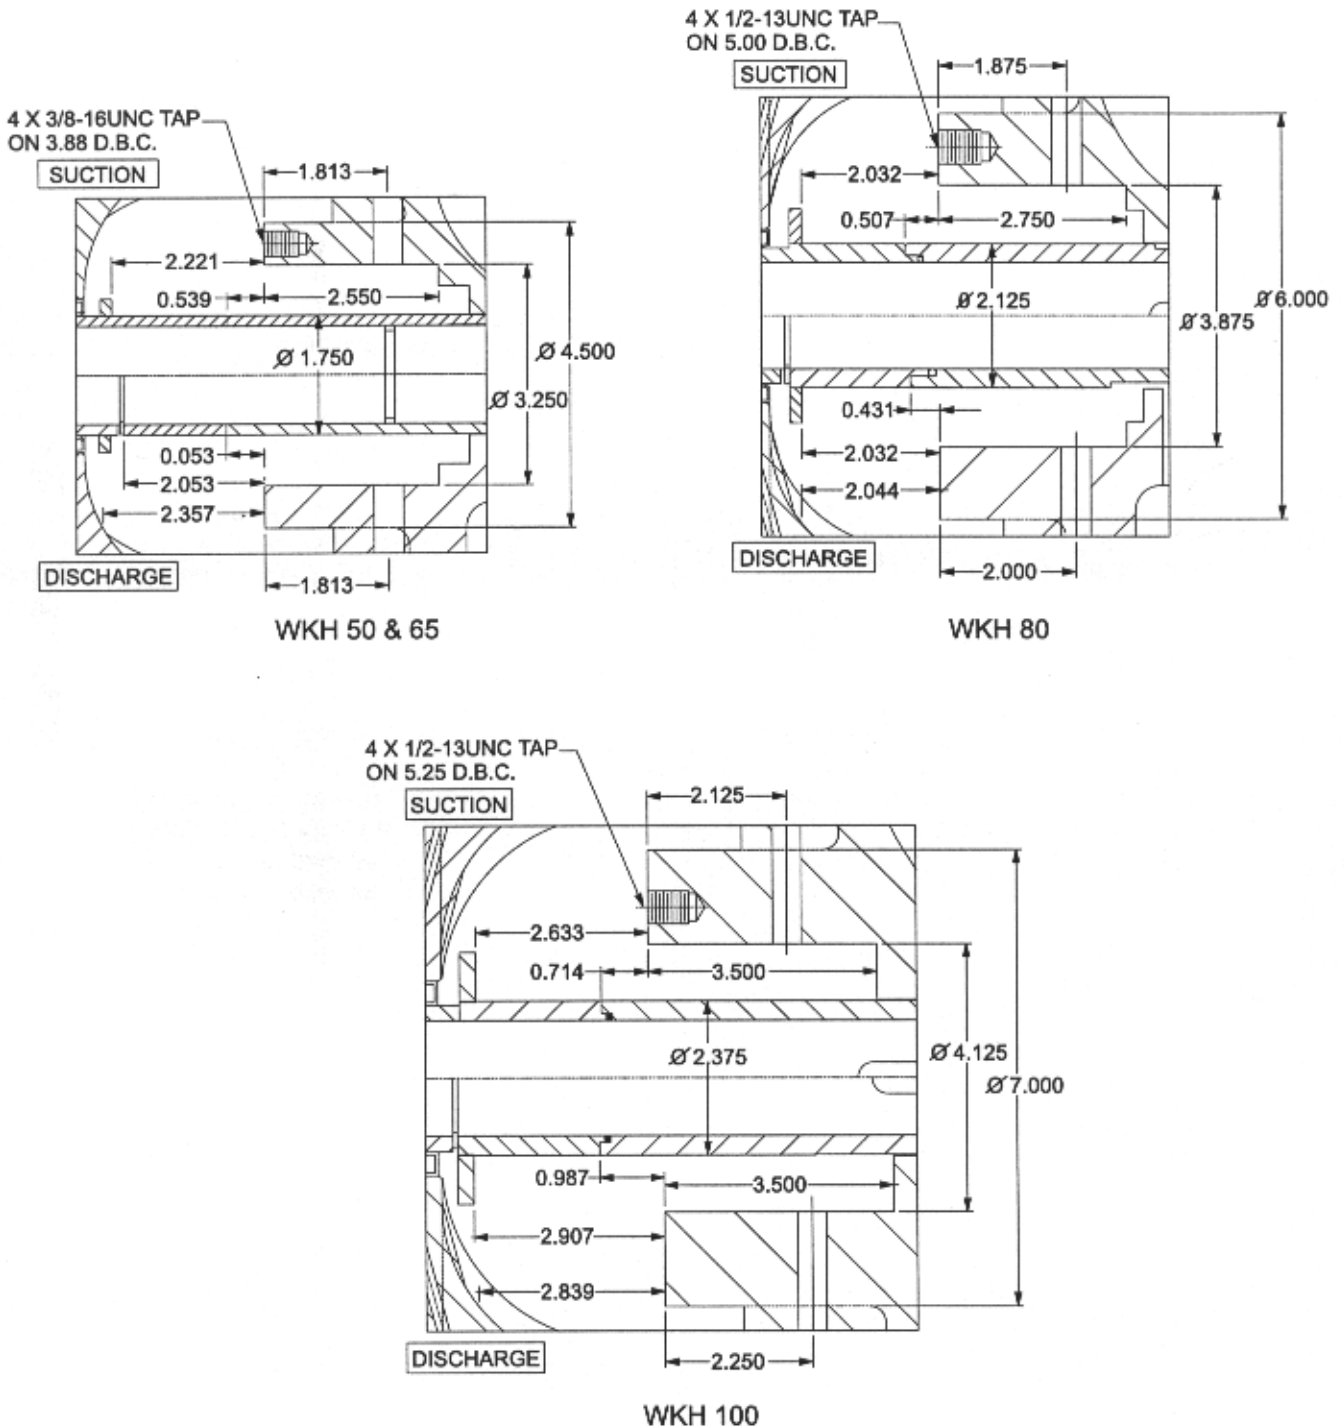

Figure 7. Stuffing Box Drawings
1. On discharge end, install sleeve o-ring (89B) in groove in shaft. Install sleeve key (32B), as necessary, and shaft sleeve (14B). For non-cartridge seal, if stationary element of mechanical seal is replaced, clean and dry seal gland (17B). Install stationary element of mechanical seal (91) in seal gland (17B). Install seal gland (17B) on shaft (6).
2. Install spacer sleeve (14D). Install bearing housing (99) and bolt to discharge case (197) with bolts (600). To obtain correct reading, install fake thrust bearings (recommend a piece of metal the same size of the bearings) on shaft.
3. Scribe a mark on shaft sleeve (14B) corresponding to bolting face of stuffing box in discharge case (197).
4. Remove bearing housing (99) from discharge case (197). Remove fake thrust bearings.
5. Scribe a second mark on shaft sleeve (14B) at the distant specified in Table 10 and applicable stuffing box drawing on Figure 7, to obtain seal setting. Remove spacer sleeve (14D) and seal gland (17B).
13. On suction end, slide spacer sleeve (14E) or (14D) into position on shaft (6). Insert sleeve key (32B) in keyway in shaft (6).
14. Slide lubricated sleeve o-ring (89B) into groove in shaft (6). Slide lubricated casing o-ring (89D) on suction case (203). Make sure that suction case wear ring (7A) is in suction case (203).
15. Slide suction case (203) onto shaft (6) and tap into place against interstage case (1). Install tie bolts (173) and secure with washers (645) and hex nuts (616). Tighten hex nuts (616) firmly and evenly. Refer to Table 11 for recommended torque requirements.
16. If non-cartridge seal (90) does not need to be replaced, proceed to step 17. If a new non-cartridge seal needs to be installed, omit step (17) and proceed as follows:
- a. From suction end, mark shaft sleeve (14A) for key slot location. Slide shaft sleeve (14A) onto shaft (6). Align keyway of shaft sleeve with key (32B) in shaft.
- b. On suction end, slide spacer sleeve (14C) onto shaft (6) next to shaft sleeve (14A).
- g. Slide shaft collar (68) onto shaft sleeve (14A). Locate suction end edge of collar at second scribe mark, refer to applicable stuffing box drawing on Figure 7. Secure shaft collar (68) with setscrews (665).
- h. Lubricate shaft sleeve (14A). If necessary, remove clips from new rotating element of mechanical seal. Slide mechanical seal (90) rotating elements onto suction end of shaft sleeve (14A), flush against shaft collar (68).
- i. Clean and dry seal gland. Carefully install lubricated mechanical seal (90) stationary element into seal gland (17A).
17. From suction end, mark shaft sleeve (14A) for key slot location. Slide shaft sleeve (14A) complete with shaft collar (68) and rotating element of mechanical seal (90) onto shaft. Align keyway of shaft sleeve with sleeve key (32B), as applicable. Stuffing box seal face setting should be checked using the scribe mark on shaft sleeve (14A). Secure shaft collar (68) with setscrews (665).
18. From suction end, install o-ring (89H) on seal gland (17A). For non-cartridge seal, slide seal gland (17A) complete with stationary element of mechanical seal (90) over shaft and onto studs (630). Ensure tap for flush line in gland is positioned so that the flush lines can be connected. For cartridge seal, install seal cartridge and seal gland (17A) on shaft (6). Position seal cartridge on shaft and install centering tabs. Secure seal gland (17A) with nuts (615) on studs (630), finger tight.
19. Bolt bearing housing (99) to suction case (203) with bolts (600). Position bearing housing (99) so that grease fitting is located on top of frame.
20. From suction end, install slinger (40) on spacer sleeve (14C). Slide spacer sleeve (14C) and oil seal (169) onto shaft (6).
21. Slip fit radial bearing (16) on shaft (6). Install bearing lockwasher (69) so that tab of lockwasher (69) fits into keyway on shaft (6). Install bearing locknut (22) and tighten against lockwasher (69) and bearing (16). Ensure bearing (16) is pushed back completely. Crimp lockwasher (69) tab into slot provided on outside of bearing locknut (22).
22. From suction end, install inboard bearing cap (35) and bolt to bearing housing (99) with bolts (601). Position cap (35) with the grease overflow hole located on lower half of cap.
23. On both ends, tighten hex nuts (615) on studs (630) firmly and evenly securing seal gland (17A) and (17B). Install male connector (410) body in seal glands (17A) and (17B).
24. Install tube (400) and (408). Secure tube by tightening retaining nuts on tube connectors (410) and (411).
1. On discharge end, install sleeve o-ring (89B) in groove in shaft. Install sleeve key (32B) and shaft sleeve (14B). For non-cartridge seal, if stationary element of mechanical seal is replaced, clean and dry seal gland (17A) or (17B). Install stationary element of mechanical seal (91) in seal gland (17A) or (17B). Install seal gland (17B) on shaft (6).
2. Install spacer sleeve (14C) or (14D), as necessary. Install bearing housing (99) and bolt to discharge case (197) with bolts (600). To obtain correct reading, install fake thrust bearings (recommend a piece of metal the same size of the bearings) on shaft.
5. Scribe a second mark on shaft sleeve (14B) at the distant specified in Table 10 and applicable stuffing box drawing on Figure 7, to obtain seal setting. Remove spacer sleeve (14C) or (14D) and seal gland (17A) or (17B).